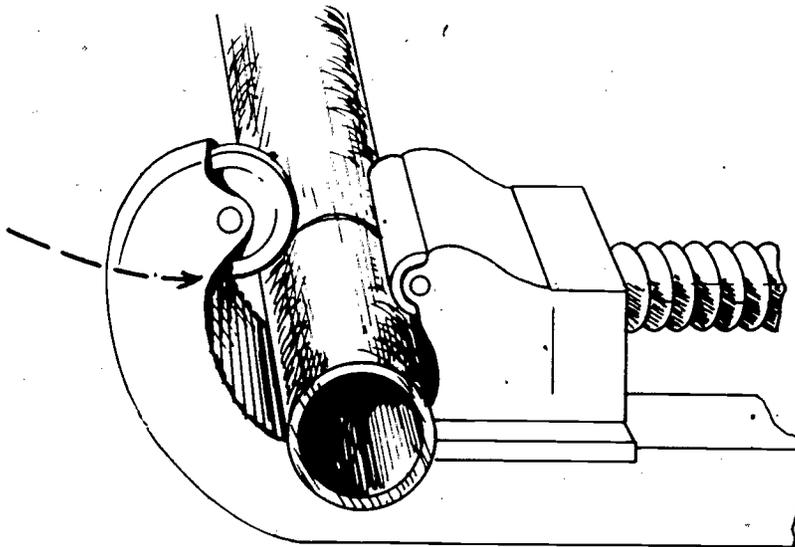

FIGURE 1
- E. Locate cutter wheel on the pencil mark (Figure 1)